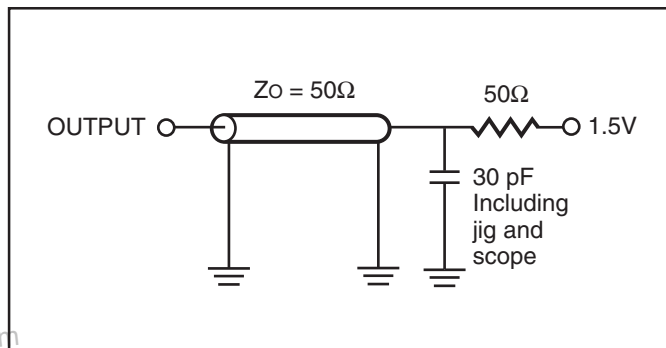

Figure 1.
| Output Load   | See Figures 1 and 2   | See Figures 1 and 2   |
1. Test conditions assume signal transition times of 3 ns or less, timing reference levels of 1.5V, input pulse levels of 0V to 3.0V and output loading specified in Figure 1.